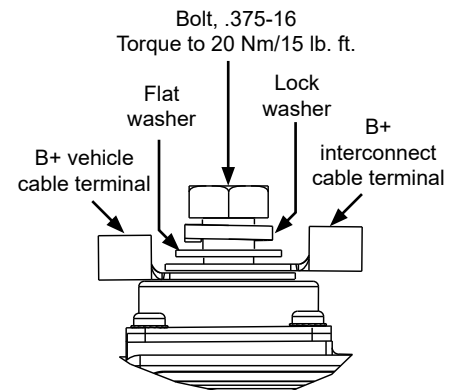

Figure 2: B+ Terminal Hardware Stacking Order
5. Connect vehicle B+ cables to alternator B+ terminals. Connect interconnect cable between both B+ terminals. Install hardware on B+ terminal in stacking order shown in Figure 2. Torque to 20 Nm/15 lb. ft.